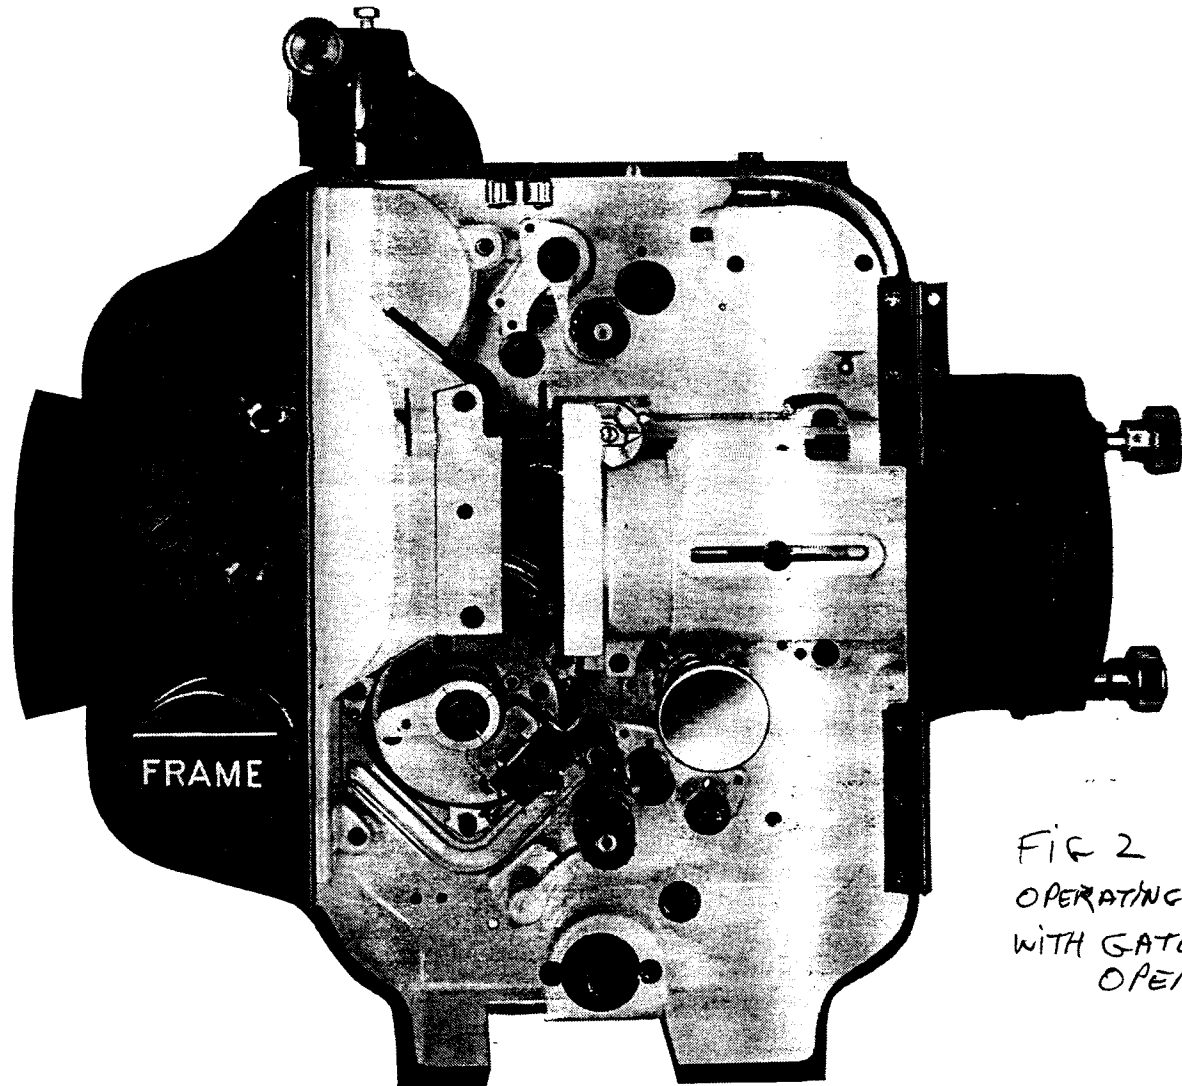

FIG 2
The film gate of the "AA" opens one full inch, which makes it possible to clean the shoes, tracks and aperture without removing any of these units. (Fig. 2.) When more careful cleaning is indicated, the aperture and tracks (which are one integral unit), and the tension shoes (again one unit) can be easily and quickly removed and replaced.
3. Open the film gate, separate intermittent sprocket shoe, and the upper and lower pad rollers. (See Fig. 2.) The film gate is opened by pushing inward on the large knob just below the lens carriage while turning it clockwise about a half turn. The intermittent sprocket shoe assembly is opened by pushing away from the sprocket the two finger grips until the automatic latch functions.
collar. This will enable the projectionist to know in later threading operations exactly when the cam pin is engaging one of the star slots. (See Fig. 2.)
5. Set the variable shoe tension indicator to the desired point, "LOW," "STD," or "HIGH." (See Fig. 2.) The "LOW" position provides a film tension of about 225 grams, suitable for new, green film. The tension in the "STD" position is approximately 375 grams, which is correct for film in average condition. The "HIGH" position increases the tension to around 675 grams to aid in flattening badly buckled older films.